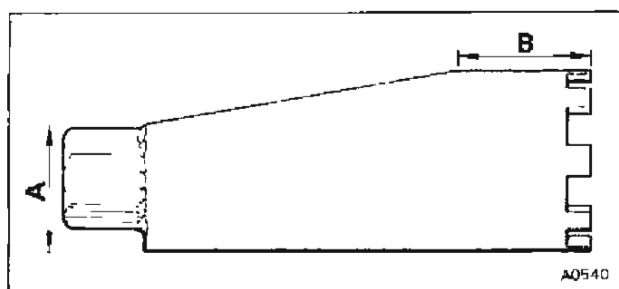

Fig. 1 Modified hydraulic pump spanner
The modification requires that a section of material be removed from the chamfered side of the tool, as illustrated in figure 1 below.
1. Measure and mark off distance A (see Fig. 1).
2. Measure and mark off distance B (see Fig. 1).